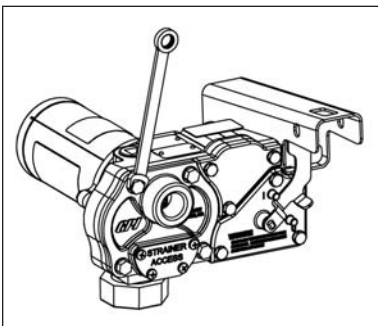

Figure 4
2. Remove the gear coverplate. (Figure 4)